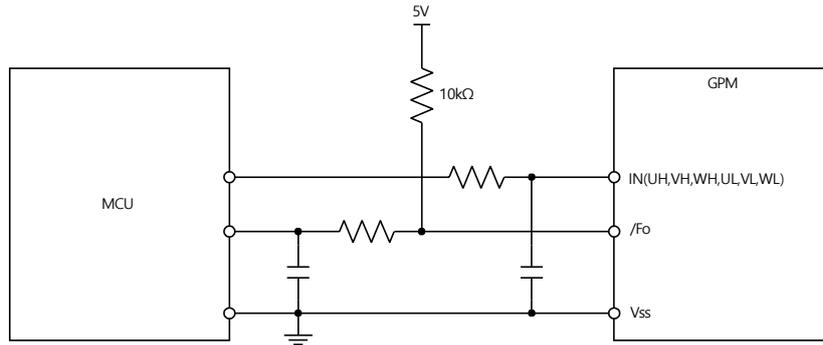

Figure 6. Recommended MCU I/O Interface Circuit
2. Fault output is an open-drain type. This signal line should be pulled up to the positive side of the MCU or control power supply with a resistor that makes  $I_{FO}$  up to 1 mA. Please refer to Figure 6.
3. Input signal is active-HIGH type. There is a 5 k $\Omega$  resistor inside the IC to pull-down each input signal line to GND. RC coupling circuits should be adopted for the prevention of input signal oscillation. RC time constant should be selected in the range 50~150 ns (recommended R = 100 $\Omega$ , C = 1 nF). Please refer to Figure 6.